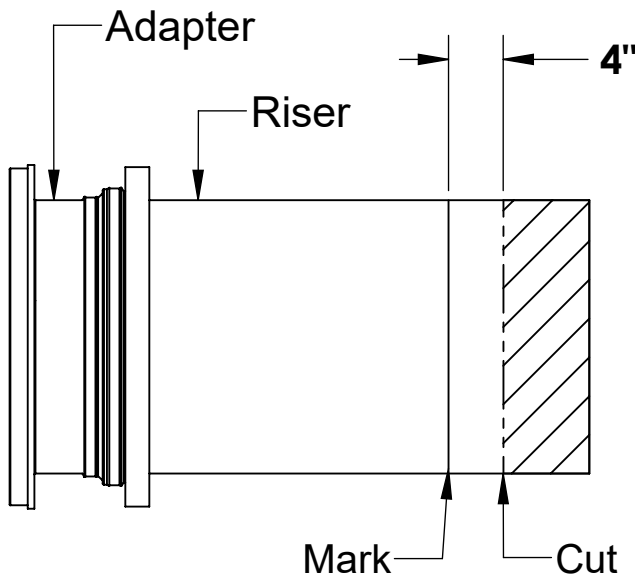

Figure 3
7. Whether the riser needs to be cut or not, make another mark with the silver marker on the sidewall of the riser a distance of 4 INCHES (3 INCHES for a OS-35 w/ 4" connections) above the edge just cut. If you did not make a cut (meaning your riser height + dimension from step 5 line was beyond the bottom edge of your riser), still mark the sidewall of the riser 4 INCHES above where your riser height + dimension from step 5 line would have been. DO NOT cut this new line. Once the riser is installed into the main unit, this new line will end up at the top of the gasket and will aid in re-assembly. See Figure 3.